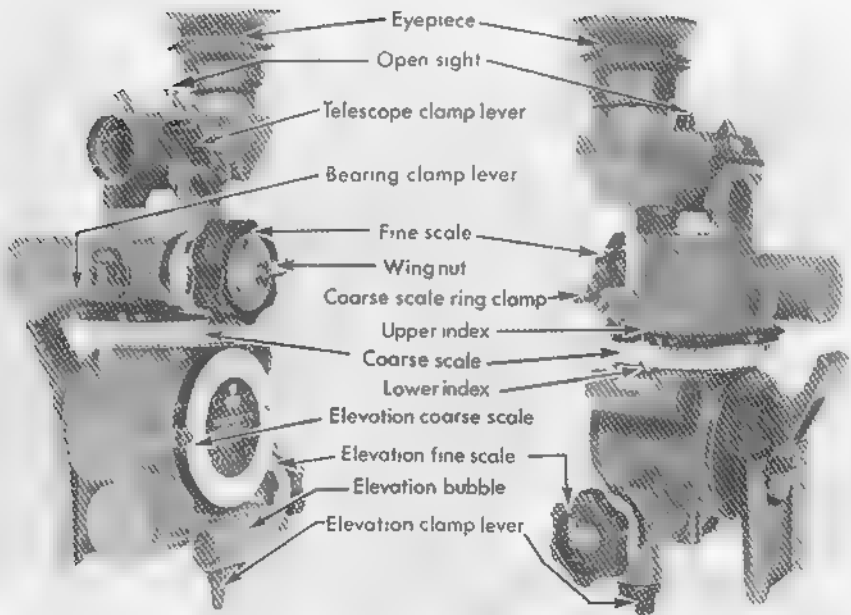

Fig 13.—The dial sight (C2 sight unit)
The Dial Sight (see Fig 13).
- a. On the coarse scale, the scale ring is always to be set with 'O' in line with the white upper index before use (see Fig 13). To do this, loosen the screw type clamp if necessary and rotate the scale ring; tighten the clamp. The lower index indicates the direction reading in hundreds of mils. The scale is numbered every 200 mils.